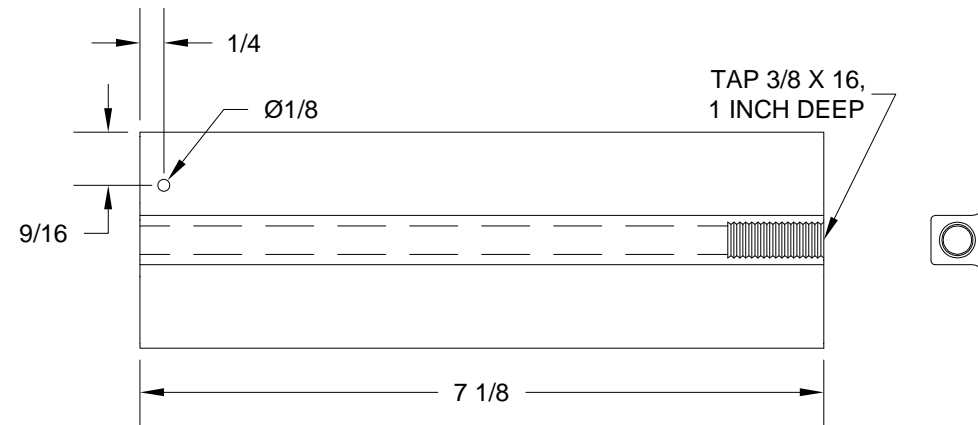

FIGURE 2:
Step 6: Fabricate the W-1020 Tie-Down Bracket from a piece of AEX TIE-DOWN by cutting to length, tapping, and drilling a pilot hole as shown in Figure 2.